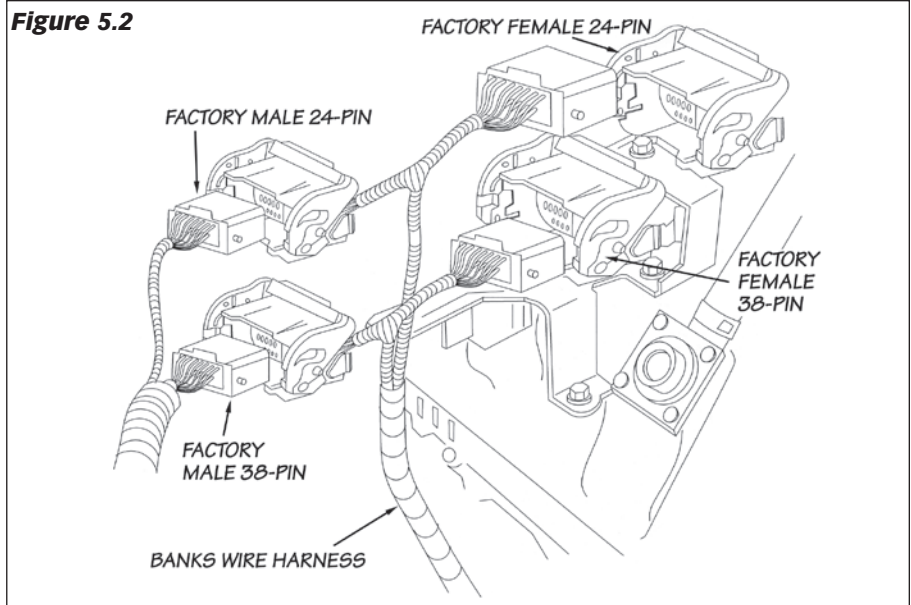

Figure 5.2
3. Locate the two black wire harness locking connectors between the brake fluid reservoir and the air conditioning compressor. Lift the gray connector locks and disconnect the 38-pin connector pair and the 24-pin connector pair (see **Figure 5.2**).
4. Insert the male 38-pin connector on the EconoMind harness into the female 38-pin connector on the factory harness. Insert the female 38-pin connector on the EconoMind harness onto the male 38-pin connector of the factory harness. Repeat this process with the 24-pin connectors (see **Figure 5.2**).